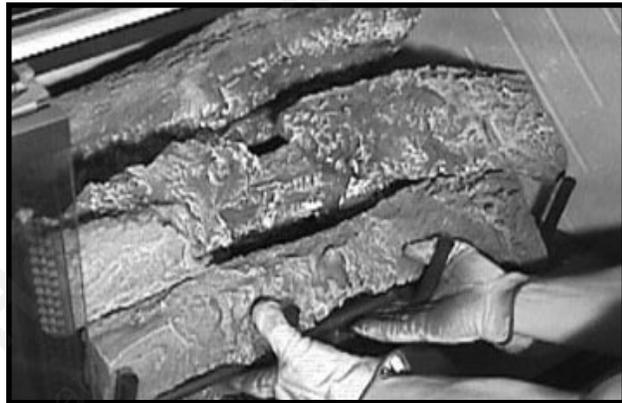

Figure 25
3. For removal of the front grate/log assembly remove two screws (one per side) from the hearth pan. See Figure 24. Pull up on the assembly to remove it from the firebox and set it aside, being careful not to damage any of the logs. See Figure 25.